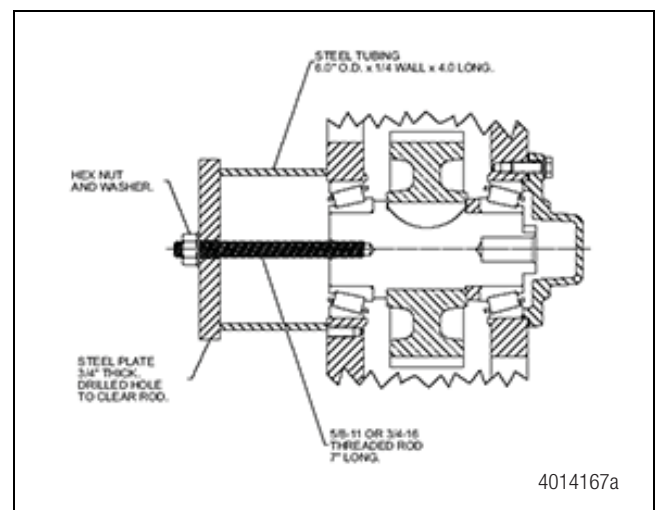

Figure 5.17
- The gear and the rear bearing cone both have a press fit to the intermediate shaft. Therefore, a puller will be necessary to remove the shaft if damage is to be avoided. (A sketch depicting a suitable fabricated puller is illustrated in Figure 5.17.